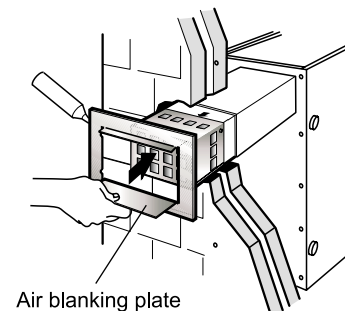

Fig. 24
- 11 Make good the hole in the wall and fit the terminal dress plate using a suitable mastic sealant (not supplied) to provide a weatherproof seal. See Fig. 24.
Ensure that the air blanking plate of the terminal dress plate covers the air intake holes on the underside of the flue terminal as shown in Fig. 24.